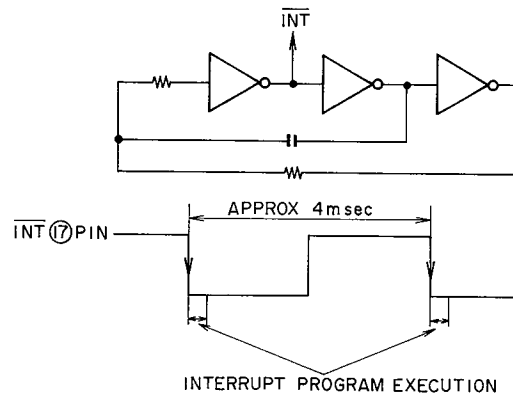

Fig. 11 INT Signal Oscillator and Waveform
The waveform shown in Fig. 11 is applied to pin ①⑦ of terminal INT from the oscillator circuit of IC6. As terminal INT falls from "H" to "L", the CPU interrupts execution of the main program and changes to the interrupt processing routine. Since the waveform applied to INT rises and falls in intervals of approximate 4 msec (250 times per second), the interrupt processing routine runs regularly in the same intervals.